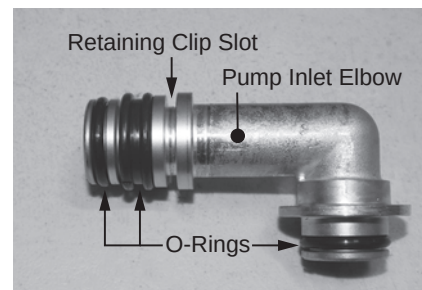

Figure 163 - Pump inlet elbow O-rings
- Locate new pump inlet elbow and three (3) O-rings provided in the kit. The pump inlet elbow uses one (1) 15 x 2.5 O-ring on the inlet side, one (1) 16 x 7 double seal O-ring on the inlet side, and one (1) 15 x 2.5 O-ring on the outlet side. Install O-rings to elbow. Install elbow to water pump and secure with retaining clip. Proceed to **Step 33** if not replacing water pump. See Figure 163.
The pump inlet elbow uses one (1) 15 x 2.5 O-ring on the inlet side, one (1) 16 x 7 double seal O-ring on the inlet side, and one (1) 15 x 2.5 O-ring on the outlet side. See Figure 163.